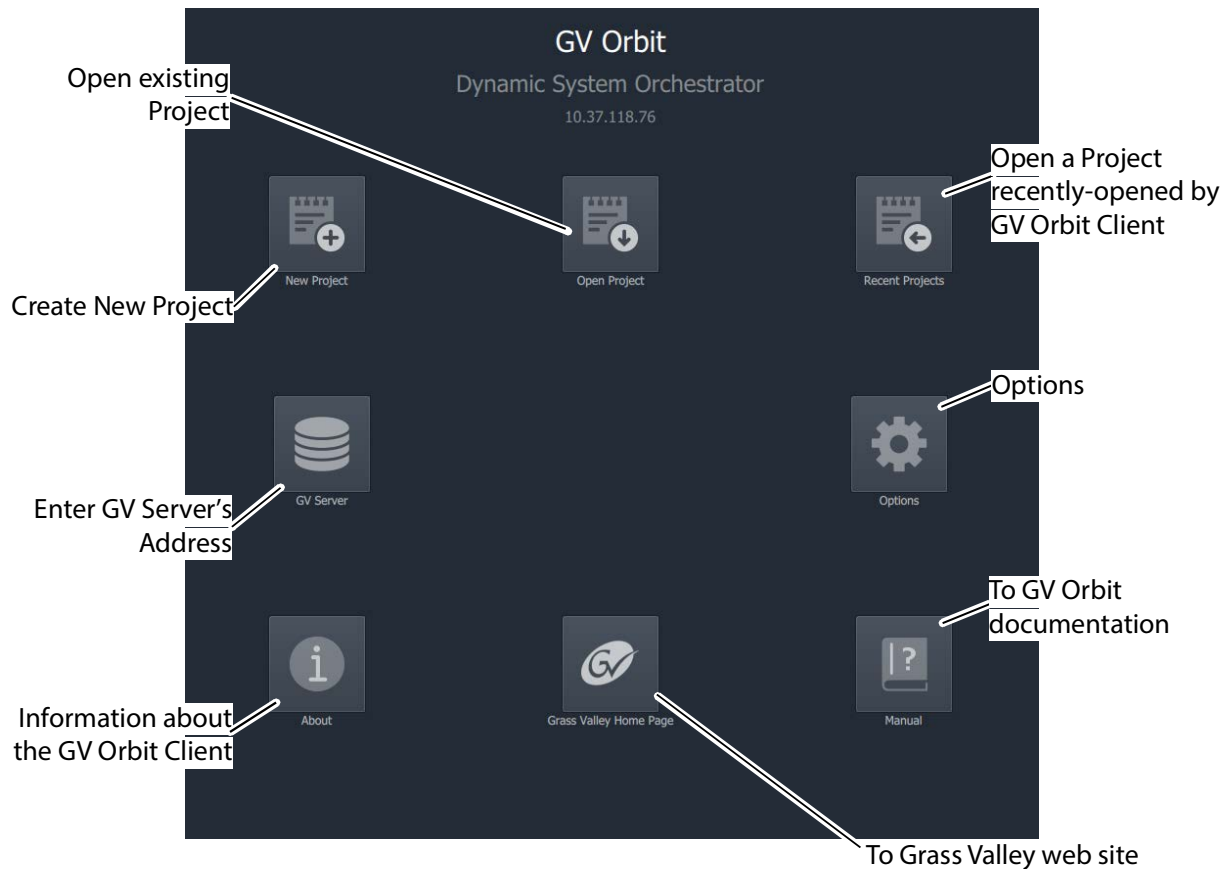

Fig. 2-11: GV Orbit Client Initial Screen
- 4 The GV Orbit Client initial screen is shown. See Figure 2-11.